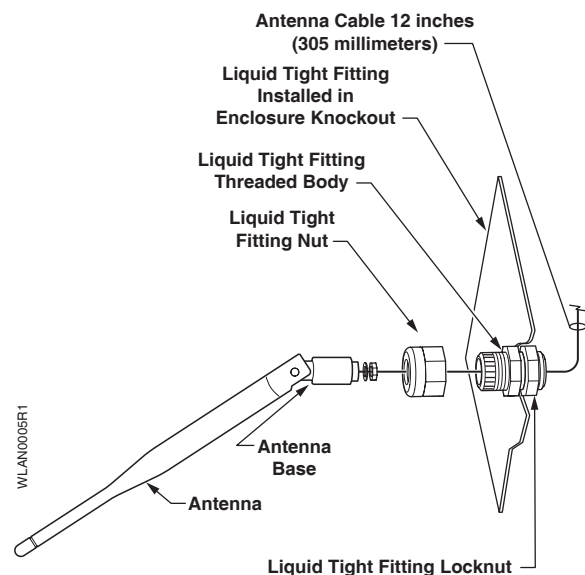

Figure 5. Remote mount antenna.
6. **For Remote Mount Antenna:** Route the antenna through the body of the liquid tight fitting (Figure 5). Hand-tighten the liquid tight fitting nut to secure the antenna in place.
Make certain the liquid tight fitting nut tightens on the antenna base (Figure 5) and not the antenna so that the antenna can be articulated.